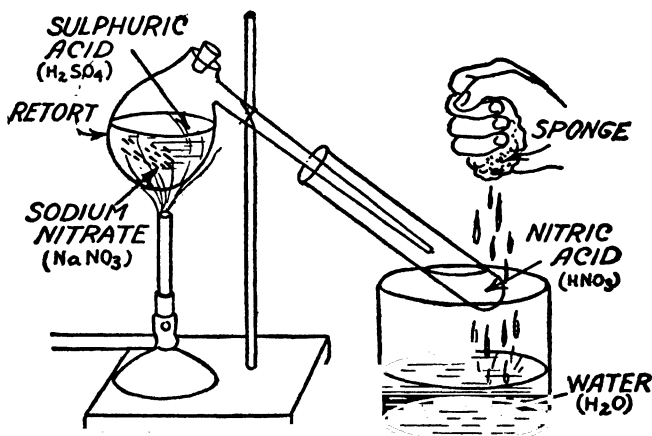

FIG. 30. APPARATUS FOR MAKING NITRIC ACID (HNO_3)
How to Make Nitric Acid.—*The Apparatus.*—To make *nitric acid* (HNO_3) get (1) a 2-ounce *glass retort* with a *stopper* in it, (2) a test tube and fix the retort to it, and (3) a *stand*, as shown in Fig. 30.